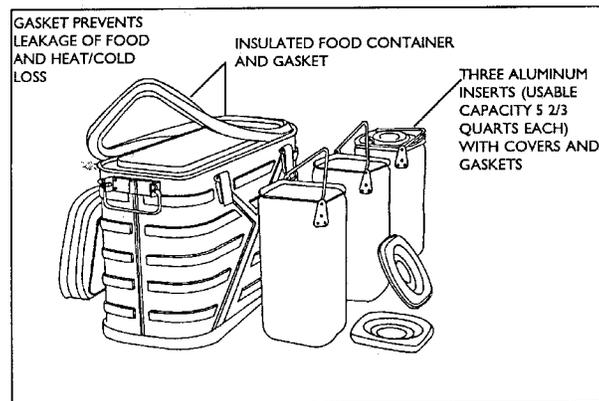

Figure 3-7. Insulated food container
1. Check the insulated food container and inserts for serviceability. See Figure 3-7.